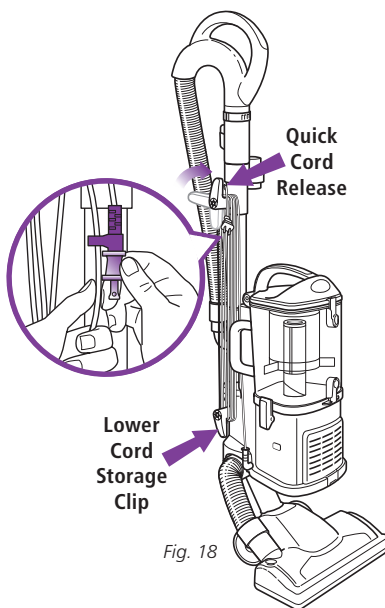

Fig. 18
- 2 Rotate the upper quick cord release to its upright position and coil the power cord loosely around the two clips. Clip the plug onto the cord to secure. (Fig. 18)